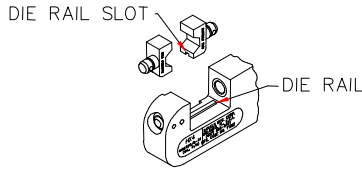

FIG. 1
1. Align die rail slots in die halves with the rail in the crimp tool and push shank of dies into holes. Dies will snap into place. (See Figure 1)